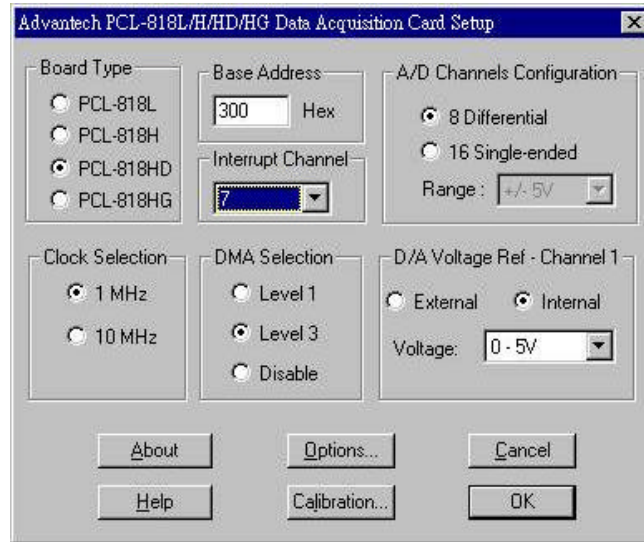

Fig. 2-4 The *Device Setting* dialog box
Step 3: Scroll down the *List of Devices* box to find the device that you wish to install, then click the *Add...* button. You will see a *Device Setting* dialog box such as the one in Fig. 2-4.
Step 4: On the *Device Setting* dialog box (Fig. 2-4), you can configure the A/D channels configuration either as *8 Differential* or *16 Single-ended*, and specify the D/A voltage reference either as *External* or *Internal*.